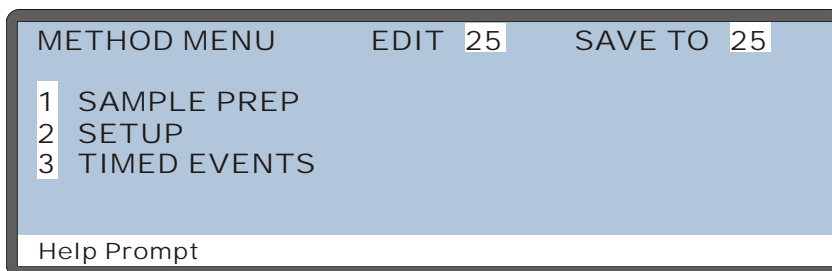

Figure 3-12. Method Menu
1. Press **Menu** and **3** to go to the **METHOD MENU** screen (see Figure 3-12).